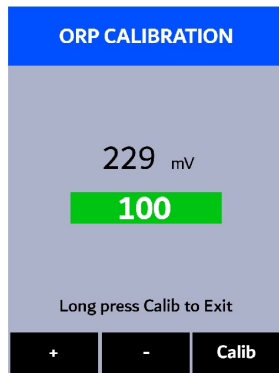

Figure 47.
6. Use **+** (**<**) and **-** (**>**) to adjust the ORP value to match the ORP standard used (Figure 47).